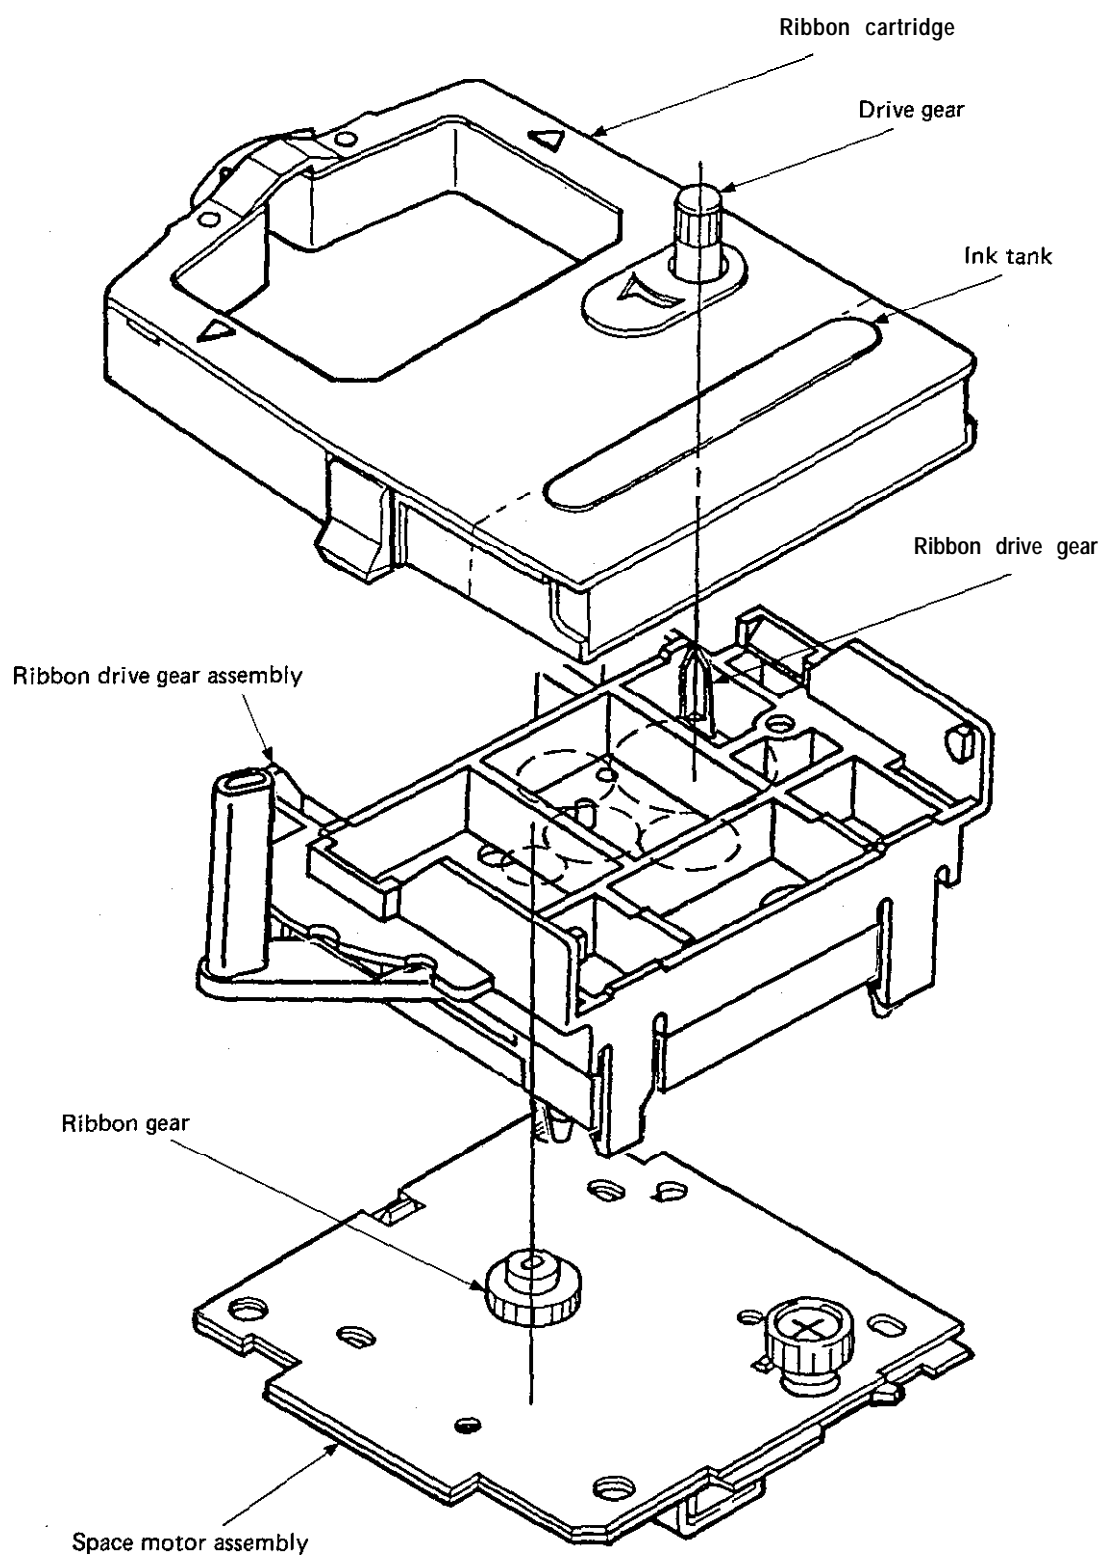

Figure 3-6
32.4 Ribbon drive operation (See Figure 3-6.)